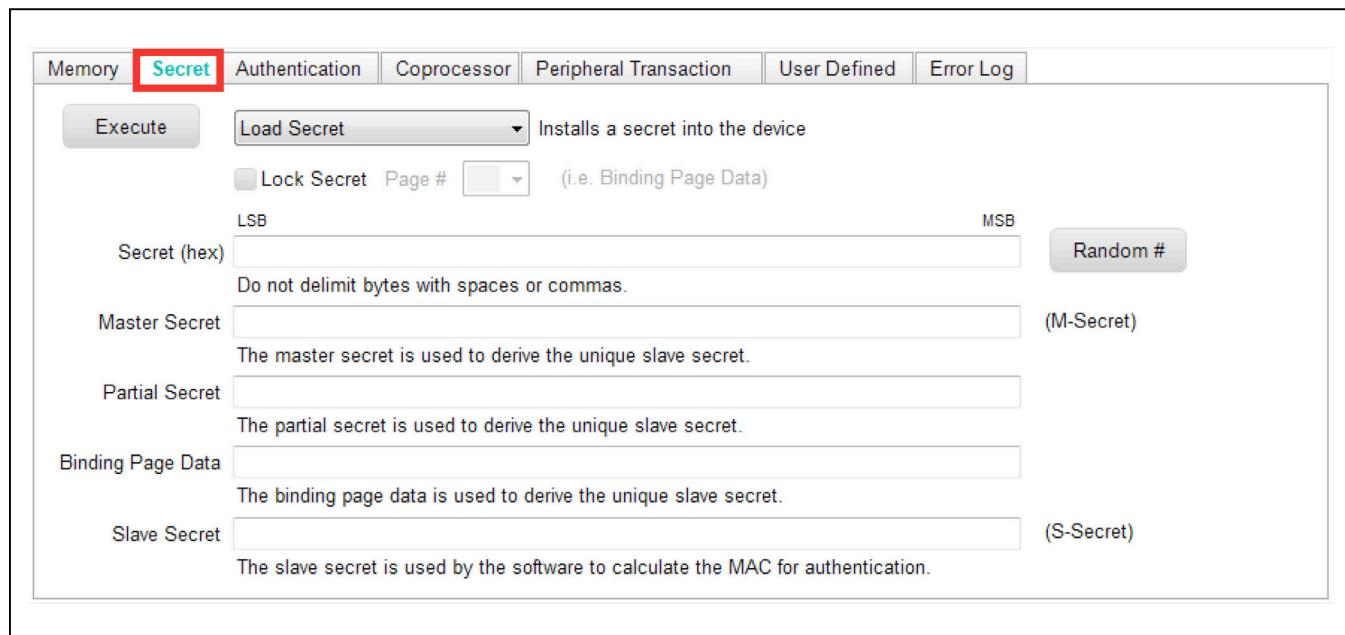

Figure 8. Secret Tab
- 4) Select the **Secret** tab (Figure 8)